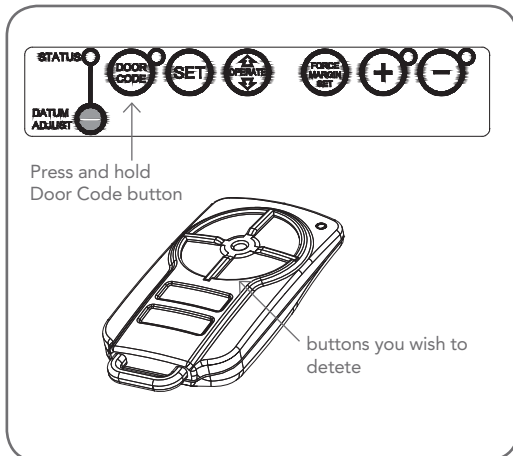

fig 18
2. Press and hold the Door Code button (**Fig. 18**).